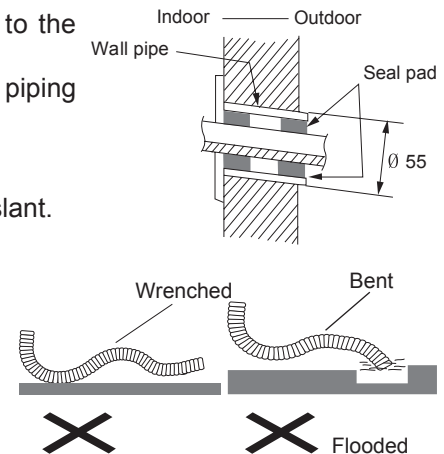

Fig.6
(1) For well draining, the drain hose should be placed at a downward slant.
(2) Do not wrench or bend the drain hose or flood its end by water.(As show in Fig.6)
(3) When the long drainage hose passing through indoor, should wrap the insulation materials.